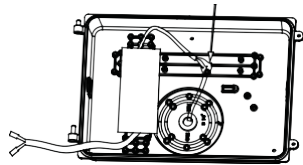

Figure 4
- Make wiring connections according to the *Wiring Diagram*. (See Figure 4 & *Wiring Diagram*, below)